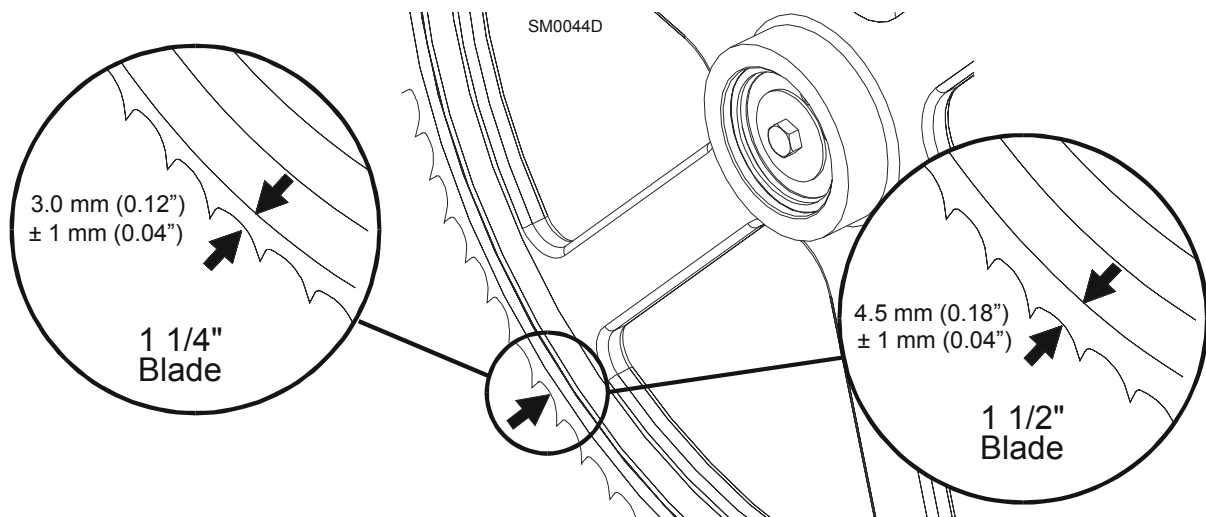

FIG. 2-6
**See Figure 2-6.** Position 1 1/4" wide blades so the gullet is 3.0 mm (0.12") out from the edge of the blade wheel ( $\pm 1.0$  mm [0.04"]). Position 1 1/2" blades so the gullet is 4.5 mm (0.18") out from the edge of the blade wheel ( $\pm 1.0$  mm [0.04"]).